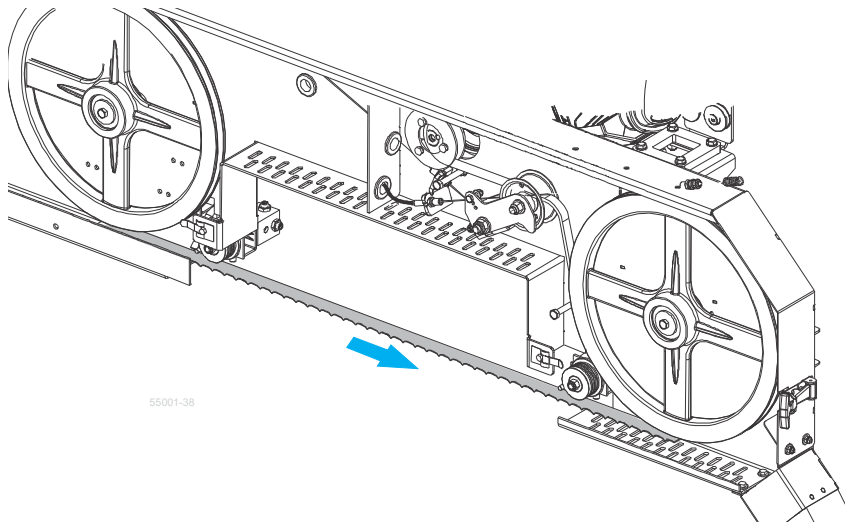

FIG. 3-34
4. Place the new blade around the blade wheels and through the blade guides. See FIG. 3-34..